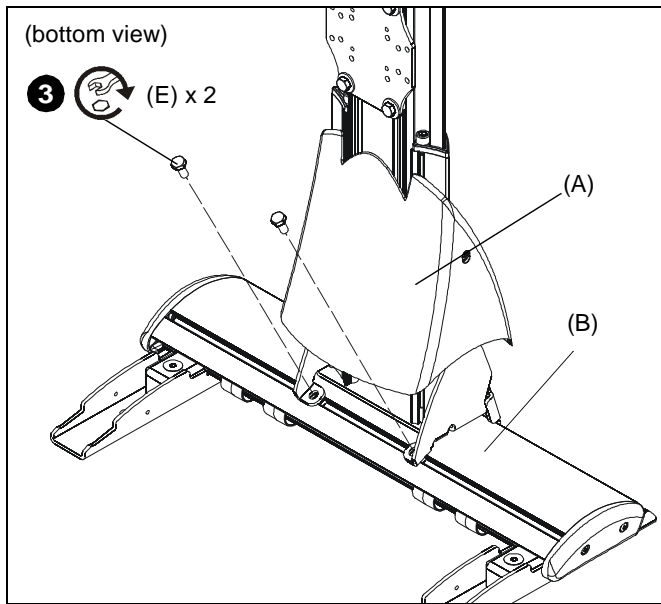

Figure 12
3. Install two 1/4-20 x 5/8" hex head bolts (E) through holes on short throw projector arm (A) and into sliding nuts on mounting bracket (B). DO NOT TIGHTEN SCREWS AT THIS POINT! (See Figure 12)
7. Tighten two bolts installed in Step 3. (See Figure 12)